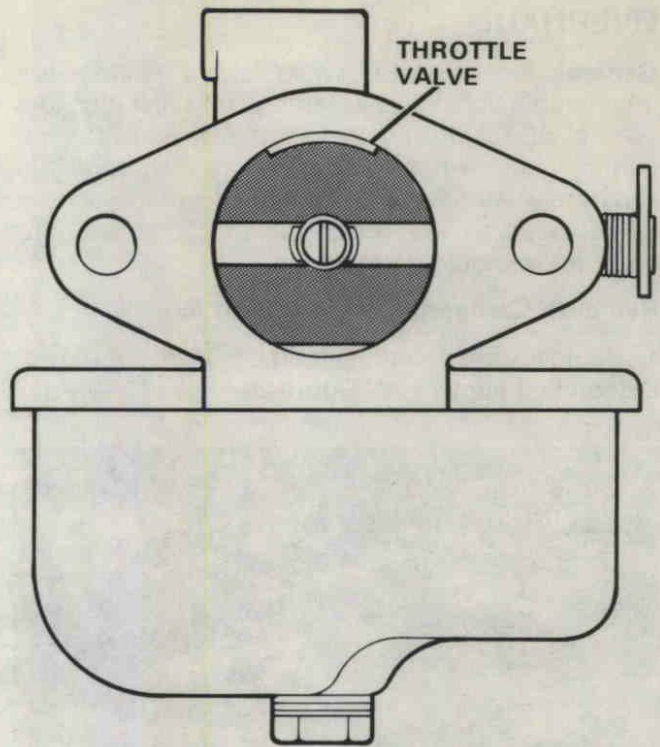

Figure 24. Position of Throttle Valve.
- A. Note position of throttle valve. Figure 24.